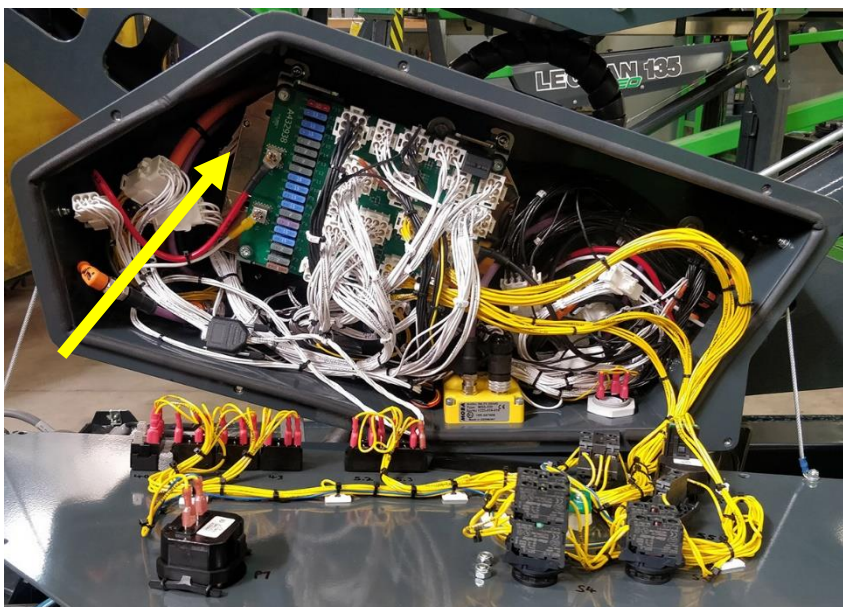

Figure 32 Logic controller
Raise the access platform off the ground using the outriggers. The tracks should be off the ground minimum 5 cm. The tightness is correct if the gap between the track and the track frame is the same from end to end (marked with red lines in figure 32). The correct gap is 20-25 mm.
The track is tightened with a preloaded spring. To tighten the track, loosen the nuts marked (A) and (B) in figure 32. Then tighten nuts D and E and hold bolts C (or vice versa). This pulls the bolts (figure 32, (C)) and the adjustment plate towards the middle of the track and tighten the load on the spring. Tighten the nuts just enough so that the track straightens in relation to the track frame. Tighten both nuts evenly. After the adjustment tighten the nuts A and B.